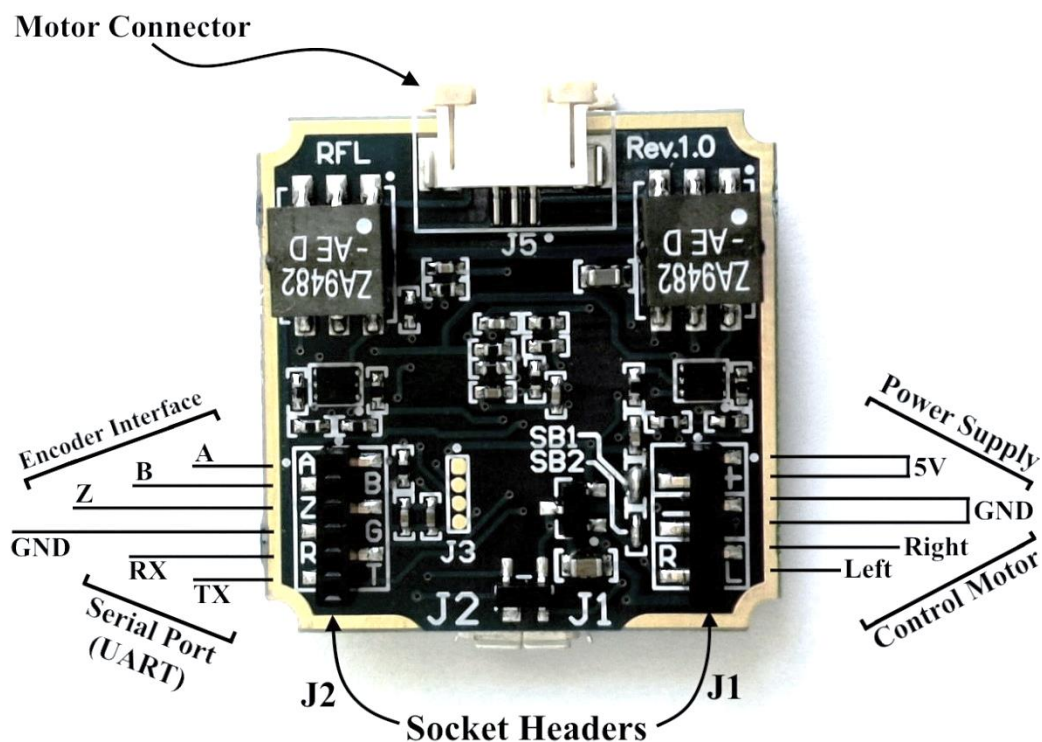

Figure 5 – Green Driver PCB
- ii. If you wish to power the unit from your own system instead of through the Micro USB connector, you can use the J1 connector, Figure 5. Apply +5V (Vdd) to pin 1 or 2, with pin 3 serving as the ground (GND).
The ROMO closed-loop system uses a serial communication protocol with Little Endian byte order and provides commands for controlling the motors’ behavior using UART commands through the pins TX, RX and GND of J2 connector (see Figure 5 – driver PCB & Figure 6 driver PCB pin-outs).